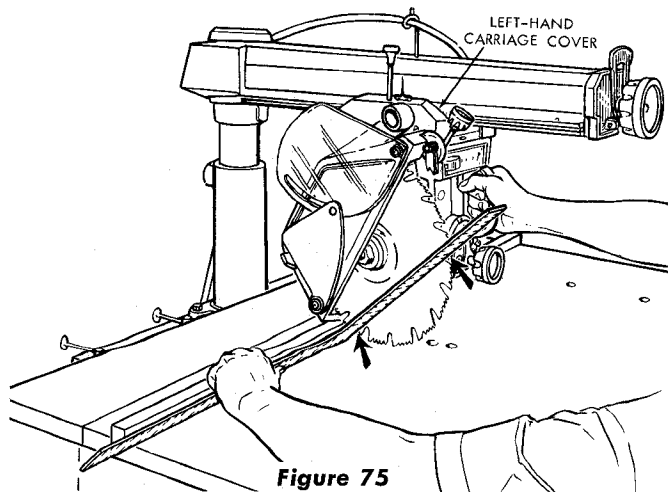

Figure 75
- (1) Loosen the guard clamp knob and tilt the guard upward at the front to expose the saw blade, as shown in figure 75.
- (2) Place a square against the rip fence and the saw blade as shown in figure 75. The long leg of the square must be held firmly against the rip fence and table top and the short leg must not touch any of the teeth on the saw blade.
- (3) If the square does not touch the hollow-ground blade at points shown in figure 75, a heel condition exists (either to the left or right). To correct the condition, proceed as follows:
- (a) Remove the left-hand carriage cover (figure 75).